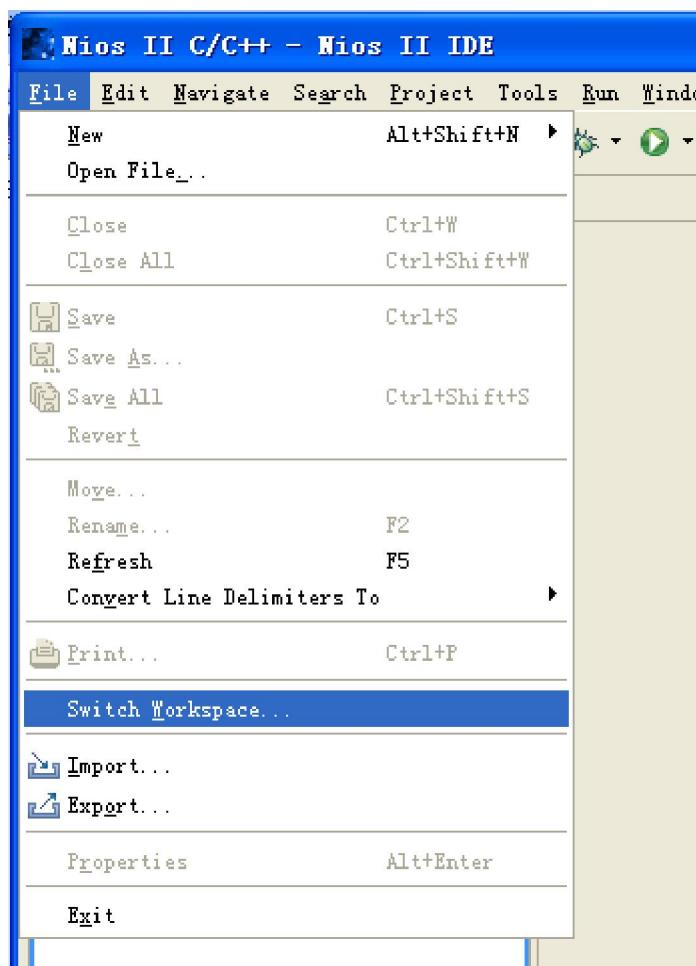
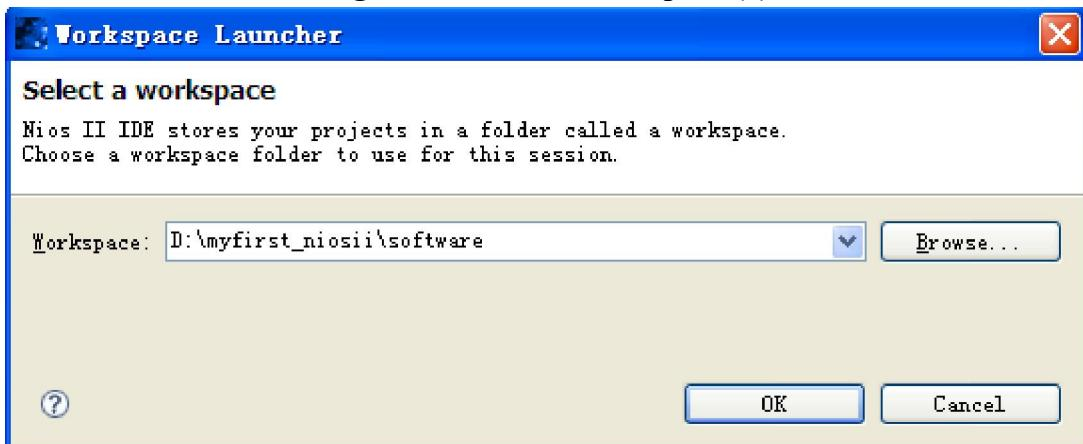

Figure 2-1 Switch Workspace (1)
Figure 2-2 Switch Workspace (2)
2. Choose ~~File > Switch Workspace~~ to switch workspace. See ~~Figure 2-1 and Figure 2-2~~.